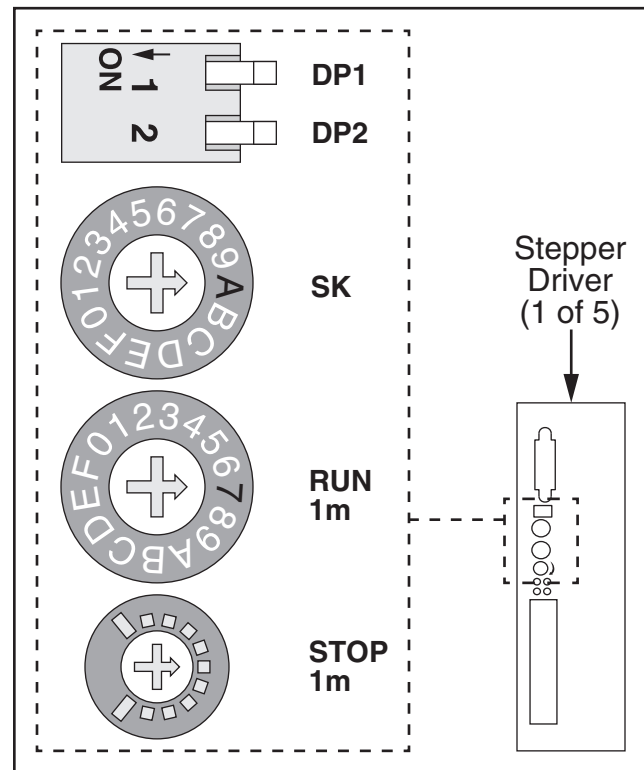

Figure 84. Stepper driver configuration.
3. Compare each stepper driver configuration to diagram in **Figure 84**.